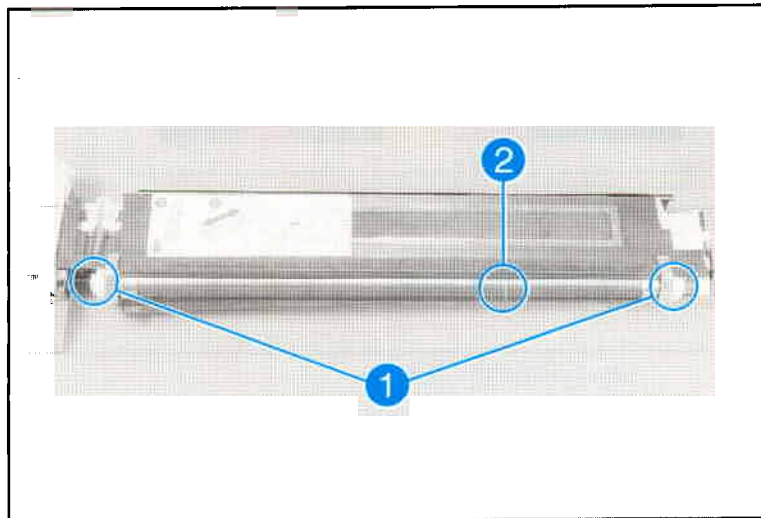

Figure 7-19 Developer with Foreign Material Causing White Stripe
Partially blank pages may result when the Developer Spacing Rollers do not seat firmly against the Print Drum. When the Top Cover is closed the load springs press the Developer the Print Drum. If this spacing is incorrect, less toner is attracted to the Print Drum, resulting in faint print. Check that the developers move freely (front to back) in the developer housing. The Developer Spacing Rollers are visible in Figure 7-19.
Horizontal White lines on black and white printed output occur when relatively large foreign particles become stuck between the Black Developer sleeve and the metering rod. The foreign matter prevents toner from coating the developer roller. Remove The developer to see if it has a clean stripe where the foreign matter is wedged (see Figure 7-19, item 2). To remedy this problem, remove the developer from the printer. Locate the drive gear for the failing developer and turn the gear counter-clockwise as you face it (see Figure 7-19, item 1). If the failure persists, replace the developer.